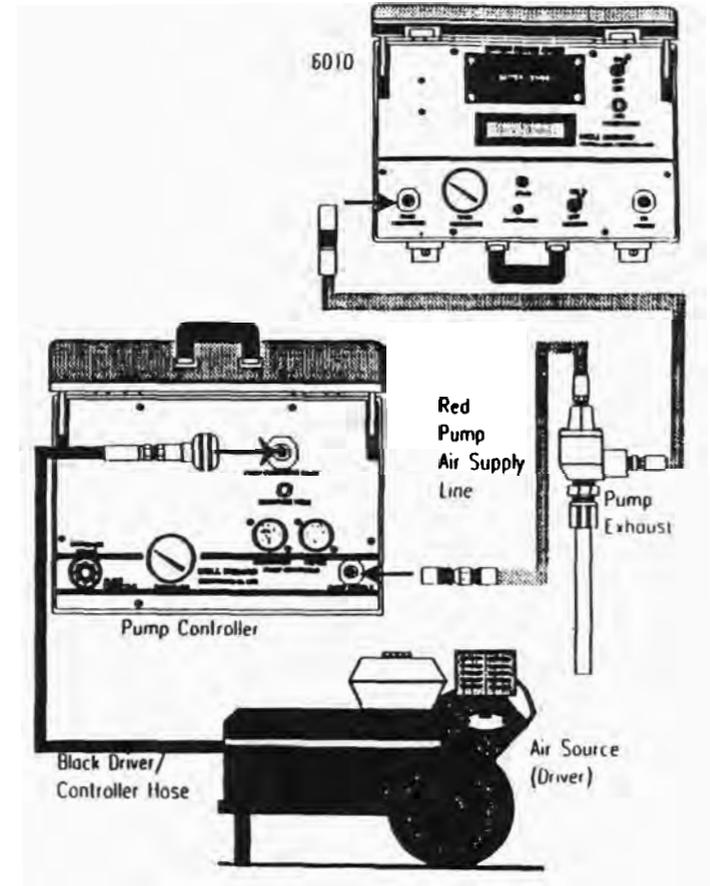

Figure 3-1: Attaching the Hoses
1. As shown in Figure 3-1, attach the black driver-controller hose to the controller.